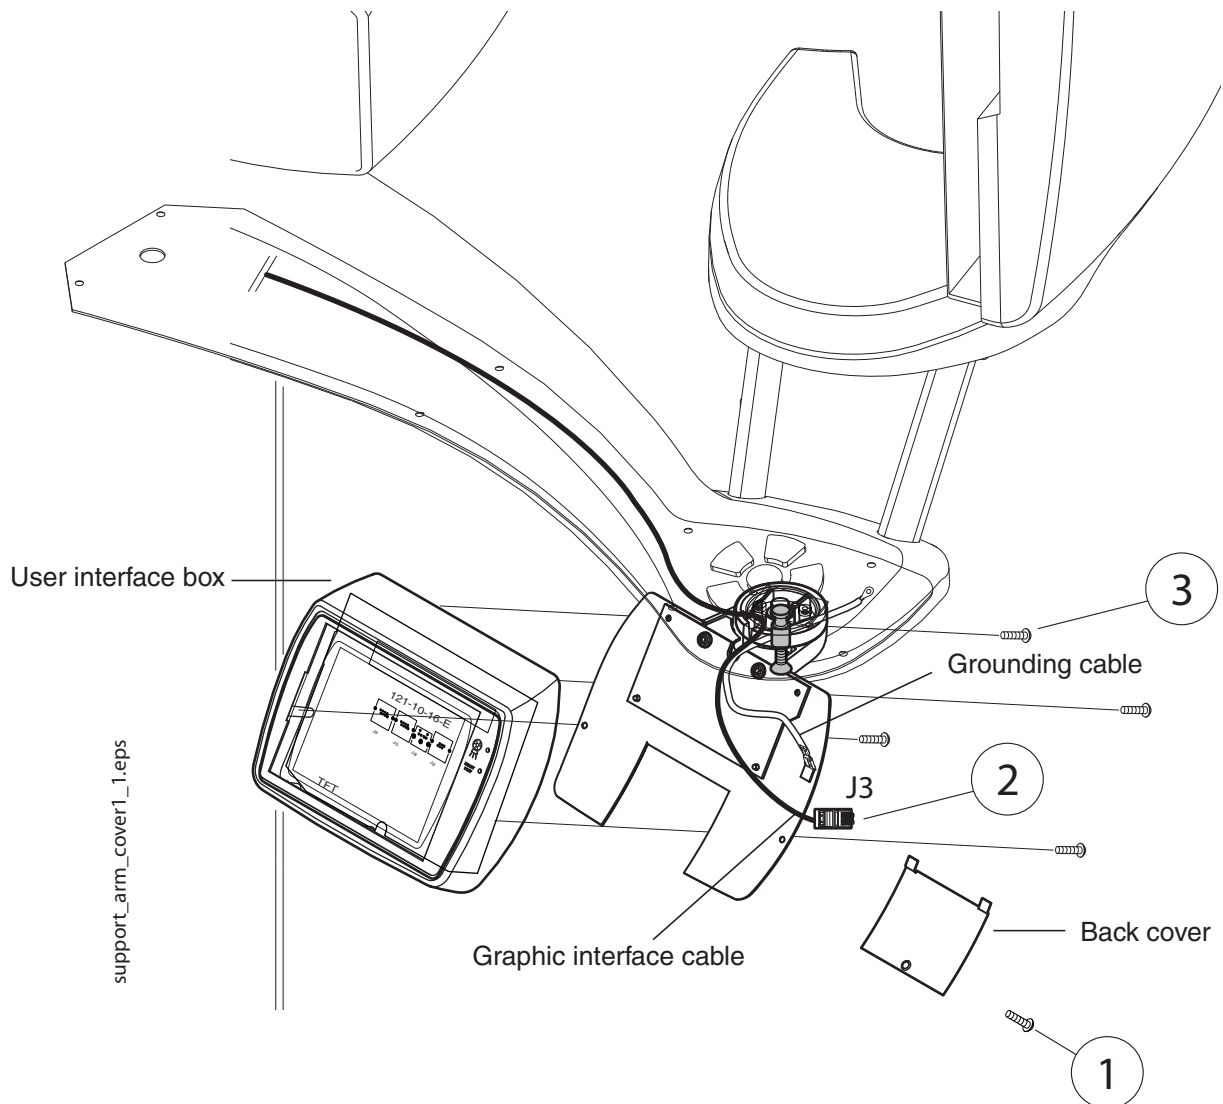

Figure 11
- 1) Unscrew the back cover attachment screw (PT 3x12 rst WN 1451 torx) and remove the cover (Fig. 11, 1).
- 2) Disconnect the graphic interface cable from the connector J3 on the GUI PCB (Fig. 11, 2).
- 3) Unscrew the four attachment screws of the user interface box (PT 3x12 rst WN 1451 torx) and remove the box (Fig. 11, 3).